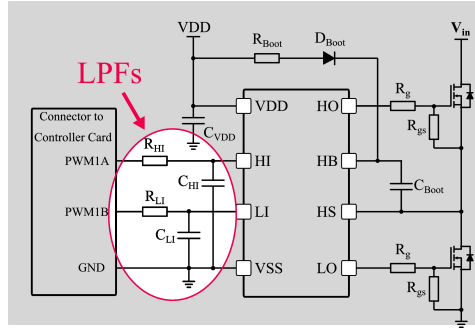

Figure 4 First-order low pass filters for the PWM signals.
In order to filter the noise induced by the parasitic inductance and capacitance of the cable connection between the power stage and the controller, a first-order low-pass filter (LPF) is suggested, as shown in Fig. 4. To filter out the noise while maintaining the main signal intact, the cut-off frequency of the low-pass filter could be set approximately to 50 times the switching frequency. In addition, it should be considered that the maximum current that can be drawn from the circuit at the input of the low-pass filter is 2 mA (hint: the maximum current is limited by the resistor). The complex-valued transfer function is expressed as a function of frequency f in (9) (j is the imaginary unit, R_{LPF} and C_{LPF} are the resistor and the capacitor of the LPF, respectively). Design the low-pass filter and plot the transfer function (i.e., the Bode plot) of this filter, also indicating with vertical lines your switching frequency and the designed cut-off frequency.